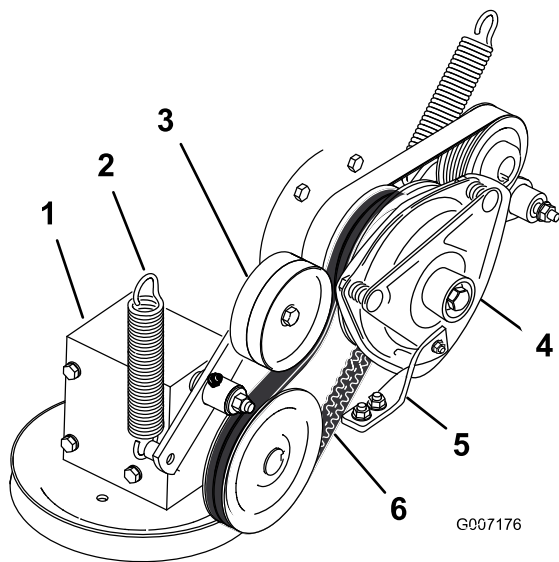

Figure 64
- 4. Remove the spring from the idler arm (Figure 64).
- 7. Install the PTO drive belt around the clutch pulley and the gearbox pulley (Figure 64).
- 9. Install the spring to the idler arm (Figure 64).